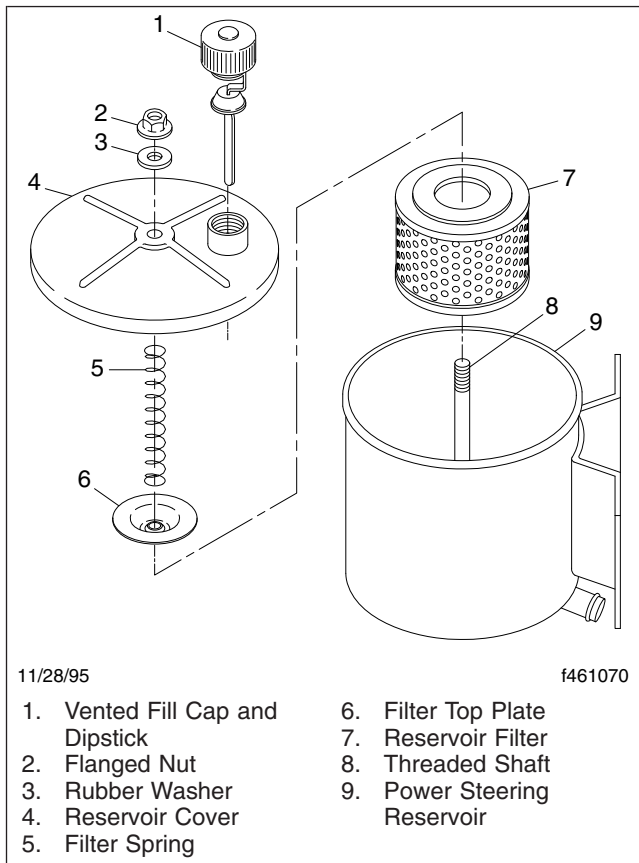
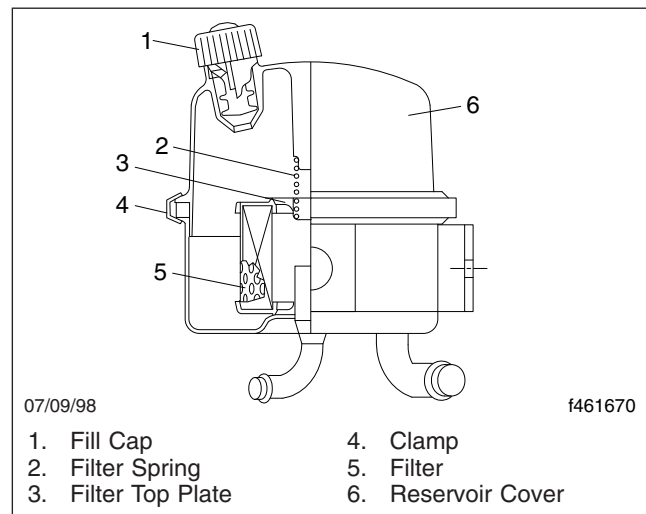

Fig. 1, Power Steering Reservoir and Filter, Century Class Conventional
Fig. 2, Power Steering Reservoir and Filter, Argosy COE
- 3.1 Use one hand to apply downward pressure to the power steering reservoir cover. Remove the flanged nut and rubber washer. See **Fig. 1**. Remove the cover.
- 4.1 Remove the clamp that holds the cover on the reservoir. See Fig. 2. Remove the cover.
2. With the engine cool, use a shop towel or clean rag to clean the area around the power steering reservoir fill cap. See Fig. 1 or Fig. 2. Twist the cap counterclockwise to remove it. Check the cold power steering fluid level. The level should be between ADD COLD and FULL COLD with the engine off.